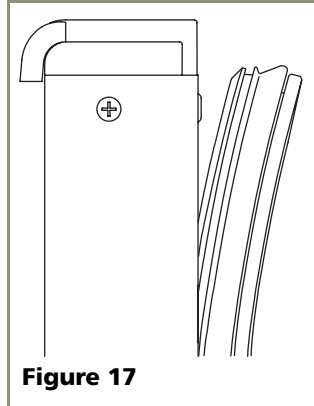

Figure 17
2. Pull door gasket out of groove (top edge of door only). Start in the middle and pull outward, moving toward the edge (see **Figure 17**). This may take some force.